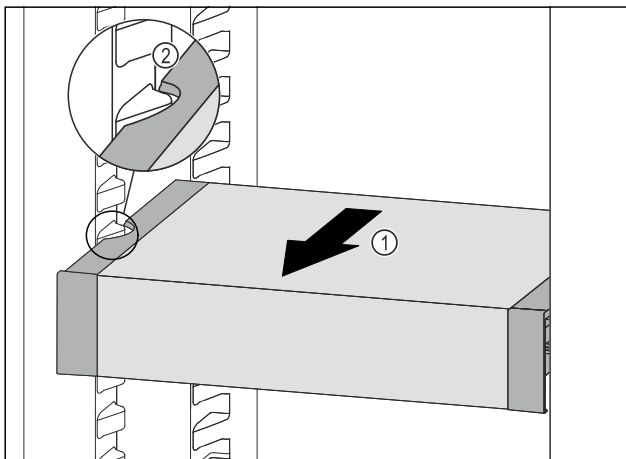

Fig. 80
- Pull VarioSafe forwards Fig. 80 (1) until the recesses in the side of the VarioSafe are at the level of the support rib in the fridge section. Fig. 80 (2)